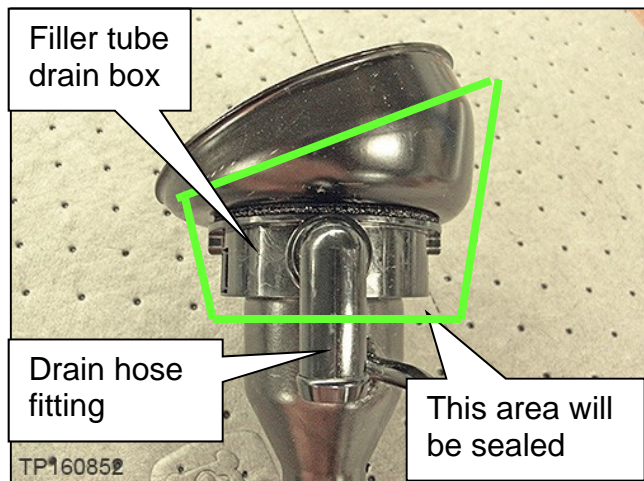

Figure 2
4. Wrap EPT foam (see **PARTS INFORMATION** on page 6) around the top of the new fuel filler tube where indicated in Figure 2.